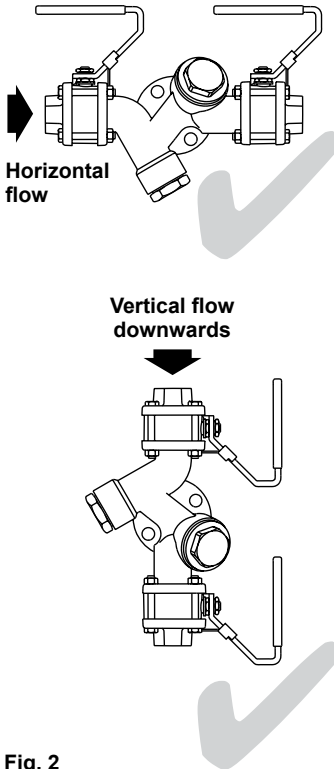

Fig. 2
3.9 The STS17.2 can be installed in a horizontal line, or in a vertical line with flow downwards - See Figure 2.